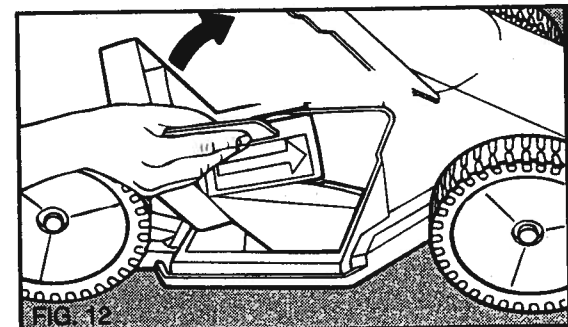

FIG. 12
4. Once the handle is raised to its full height, as shown in Figure 12, rotate it clockwise and pull it out of the mower.